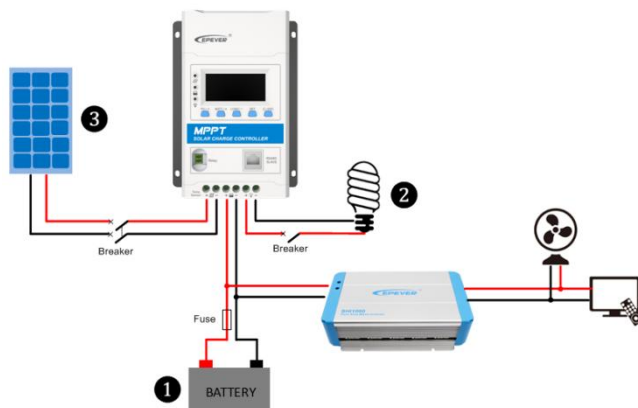

Figure 2-2 Schematic of wiring diagram
**Step 2:** Connect the system in the order of ① battery  → ② load  → ③ PV array  in accordance with Figure 2-2, "Schematic Wiring Diagram" and disconnect the system in the reverse order ③ ② ①.